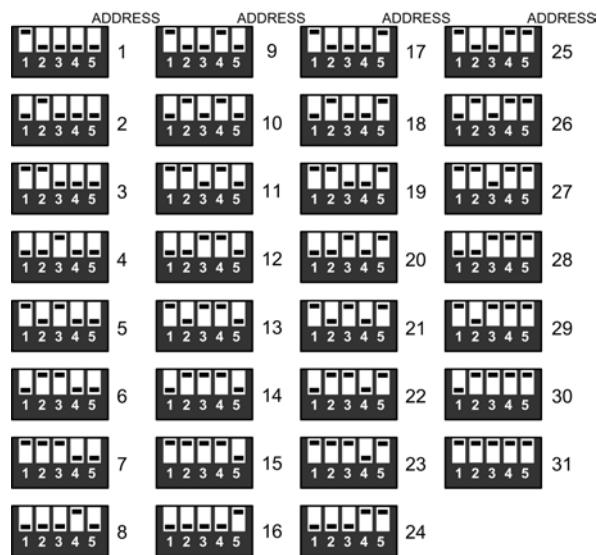

Figure 8. ALC Unit Addresses
Step 9: Set the Switch's unit address. Each ALC communication wiring branch may include up to 31 uniquely addressed ALC devices. All ALC devices residing on the same communication wiring branch must be assigned unique unit addresses. The unit address is set via the 5-position DIP switch on the side of each ALC device. Figure 7 depicts unit address no. 1: position 1 = up, position 2-5 = down. Figure 8 depicts the address DIP switch configurations for all unit address settings; 1– 31.